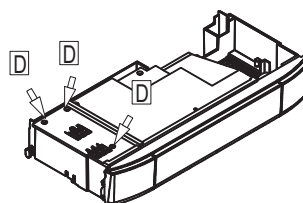

Figure 16.2
- Loosen the screws D and remove the service panel (figure 16.2)